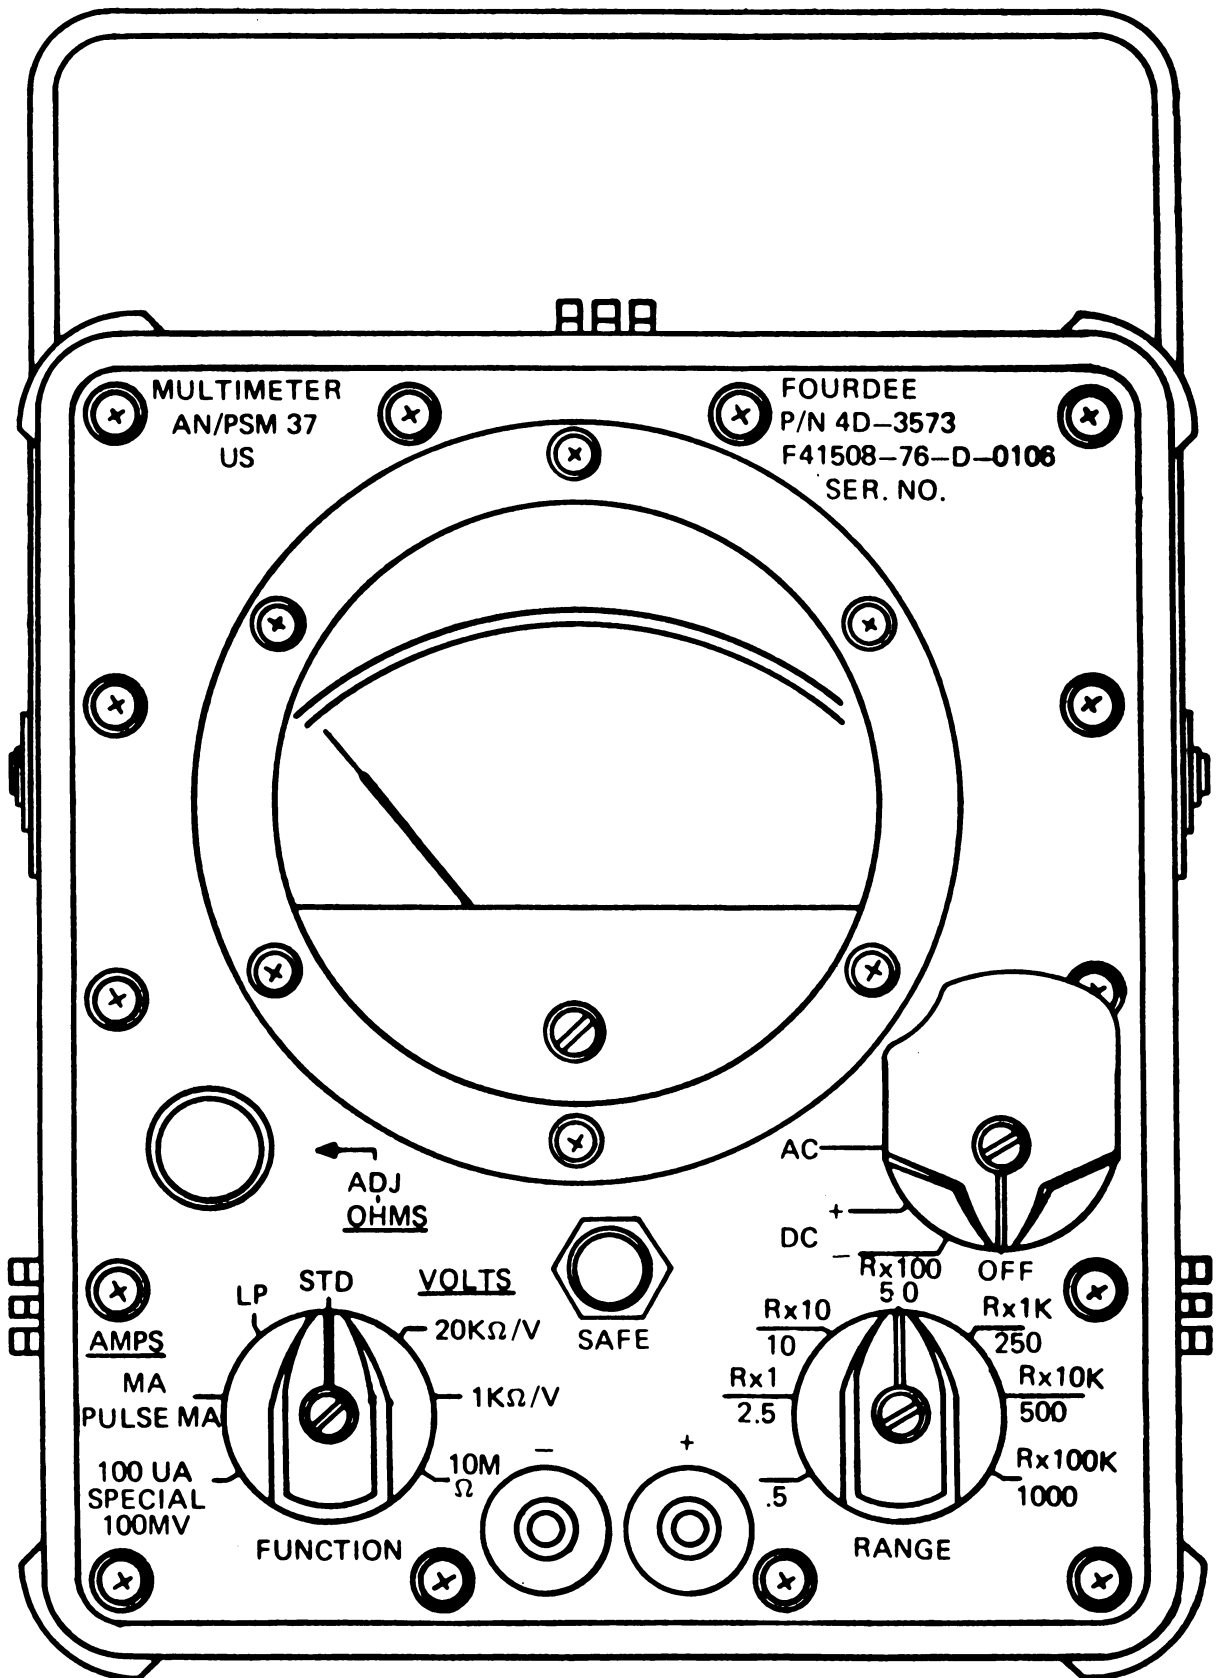

Figure 4-3. AN/PSM 37 operating controls.
**Function Switch.** The function switch (fig. 4-3) is located at the lower left of the multimeter panel and provides the means for setting the instrument for the particular electrical characteristic to be measured.
**Range Switch.** The range switch (fig. 4-3) is located at the lower right of the panel. Once the function switch has been set, the correct instrument range to provide an accurate scale indication is set with the range switch.
**Polarity Switch.** The polarity switch (fig. 4-3) is located near the middle of the right side of the panel but is not marked as such. It turns the multimeter on and off and selects the nature of the measurement to be made, DC+, DC-, or AC. The "+" and "-" polarity indicates the polarity applied to the red jack when the meter reads upscale on DC measurements, and the output polarity of the red jack when making OHMS measurements.
**OHMS ADJ.** The OHMS ADJUST control (fig. 4-3) is located near the middle of the left side of the panel and is used only to set full-scale deflection with the test leads shorted prior to making resistance measurements. This control adjusts for variations due to battery condition, temperature, and range and function settings.
**Push to Open and Reset.** This control is located adjacent to the meter on the right side of the panel (fig. 4-3). The overload circuit breaker is manually opened when this button is depressed, permitting changes in range and function settings without disconnecting the test leads from the circuit. Depressing this button also resets the overload breaker if it has been actuated.
**Overload.** The overload indicator is located just above the overload reset button (fig. 4-3). When an overload has occurred that has caused the overload breaker to open, a red indicator shaft appears in the transparent plastic dome. The red indicator retracts when the push to open and reset button is depressed, and remains retracted upon release of the button if the overload has properly reset.